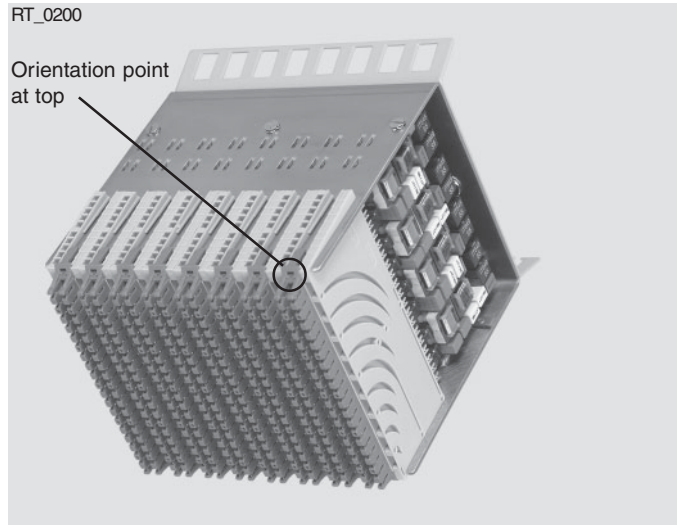

Fig. 2
When blocks are mounted horizontally, the orientation point must be at the top (Fig. 2).
- b) For horizontally mounted functional elements the orientation point of the element must be at the top (Fig. 2).